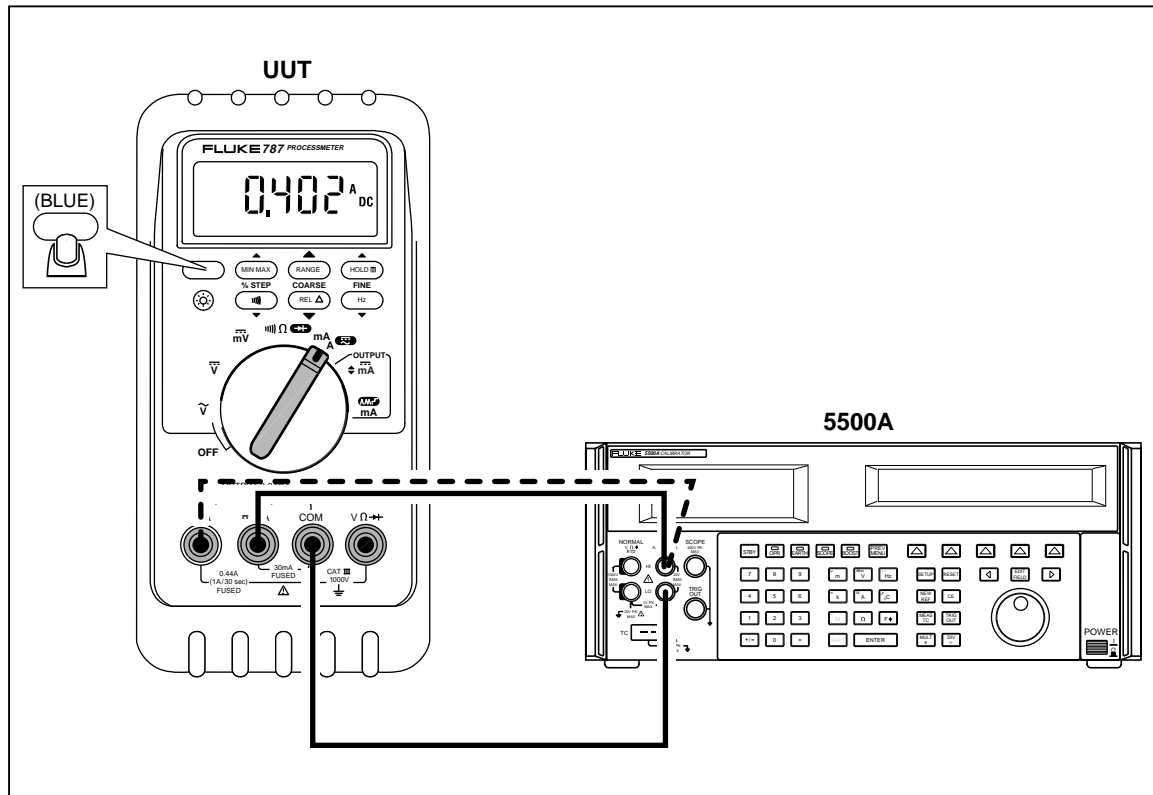

Figure 5. Current Measurement Test Connections
3. Connect the calibrator to the **COM** and **mA** terminals on the UUT as shown in Figure 5.